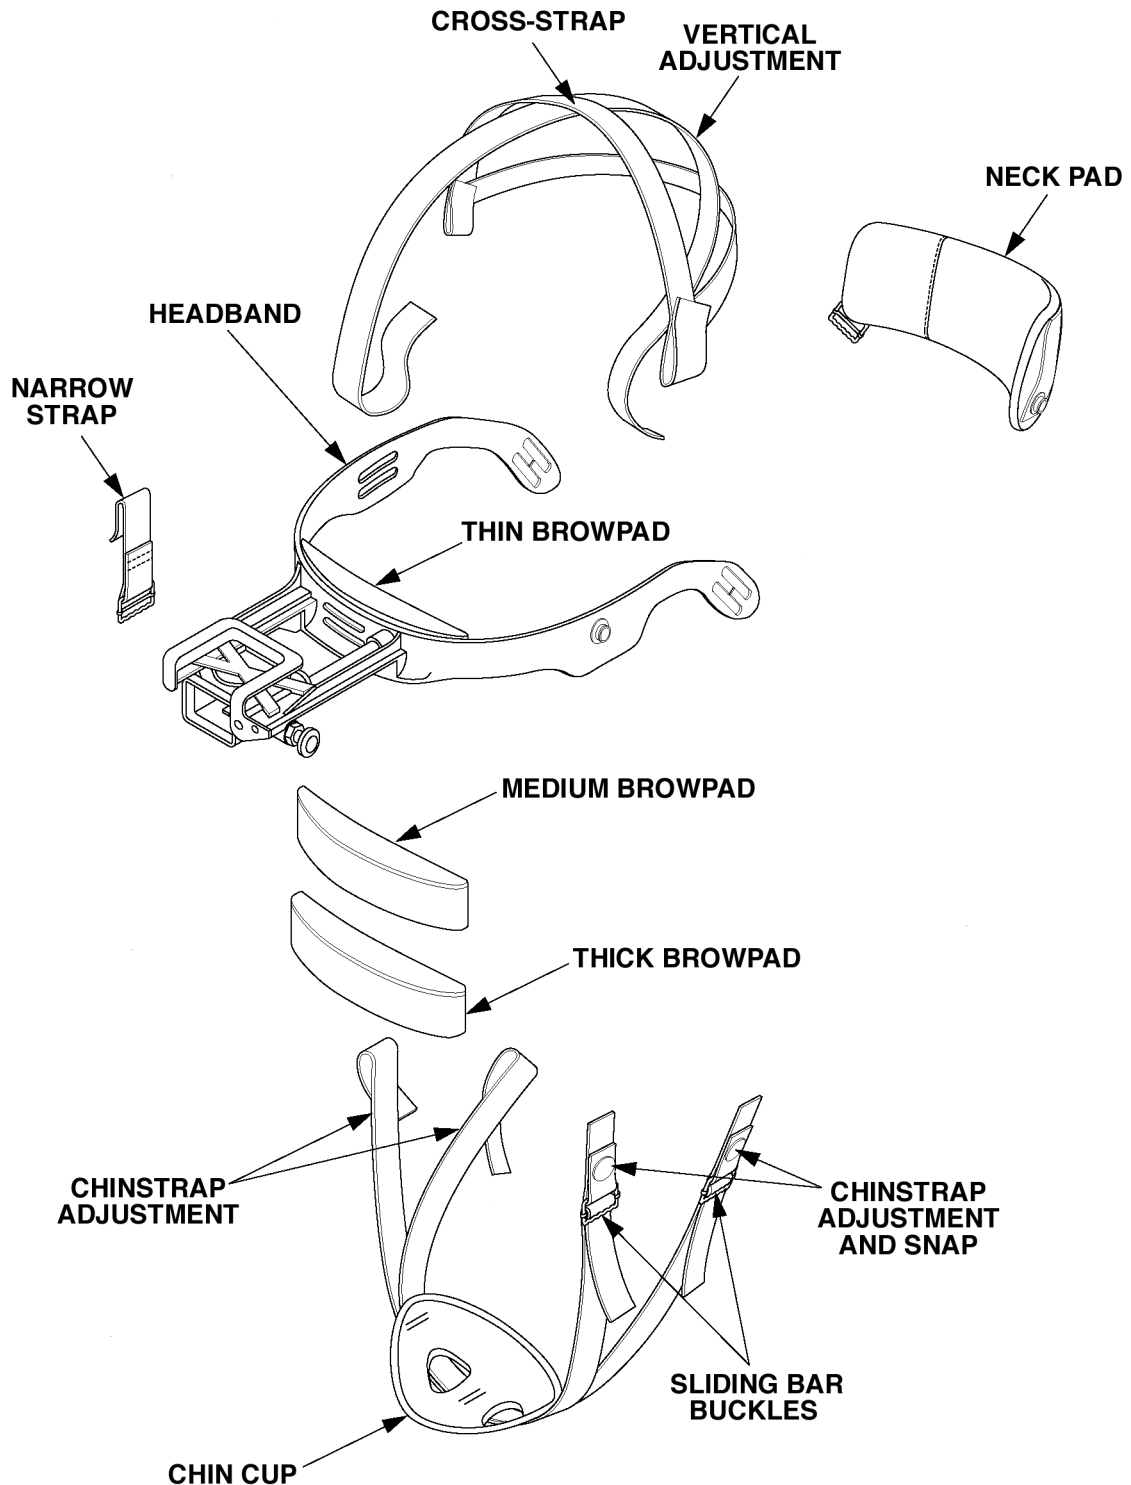
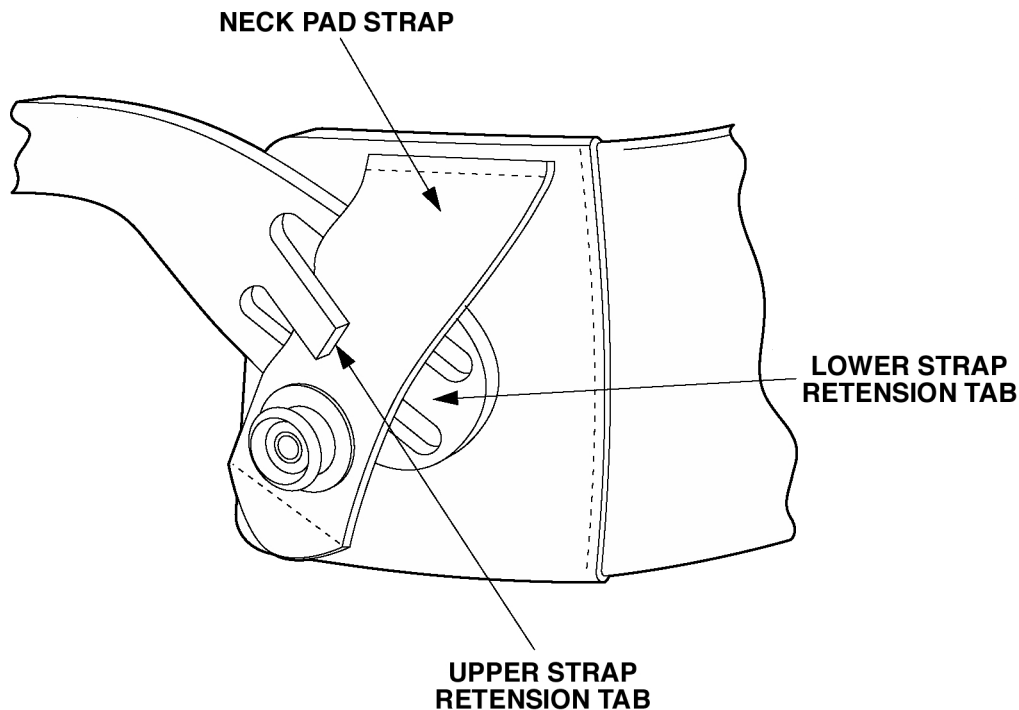

Figure 2-1. Headmount Components Removal and Replacement.
Figure 2-2. Lacing of Right and Left Neck Pad Straps.
- (1) Remove old browpad (Figure 2-1) by grasping the headband and peeling off the old browpad.
- (2) Replace browpad by gently pressing on the new browpad and smoothing out any wrinkles in new browpad.
- (1) Remove vertical adjustment (Figure 2-1) from sliding bar buckle at rear of neck pad.
- (2) Remove right chinstrap from sliding bar buckle on right side of neck pad. Remove left snap assembly from left side of neck pad.
- (3) Unlace neck pad straps (Figure 2-2) from strap retaining tabs in headband (Figure 2-1).
- (4) Replace neck pad by lacing straps as shown in Figure 2-2. Lift upper strap retention tab to allow neck pad strap to be inserted into fastener area.
(1) Remove chinstrap (Figure 2-1) by unsnapping the two snaps from the left side of the headband and neck pad. Unbuckle the chinstraps from narrow strap assembly and the right side of neck pad.
(1) Remove browpad (para 2-13).
(2) Remove neck pad (para 2-14).
(3) Remove cross-strap front strap from headband (Figure 2-1) by unthreading strap from headband slots.
(4) Slide strap free of headband by sliding the left and right strap loops off at rear of headmount.
- (6) Replace neck pad (para 2-14).
- (7) Attach chinstrap right rear strap to right sliding bar buckle on neck pad.
- (8) Attach chinstrap assembly (Figure 2-1) left rear snap to mating fastener on neck pad.
- (9) Attach cross-strap vertical adjustment into mating sliding bar buckle attached to center outside of neck pad.
- (10) Replace browpad (para 2-13).